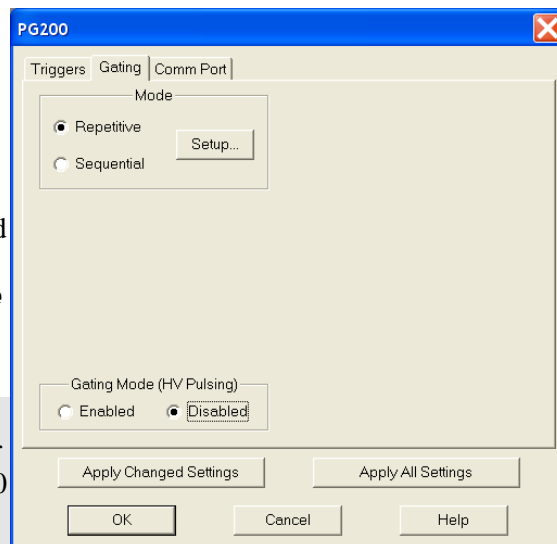

Figure 163. PG200/Gating tab
4. Click on the **Gating** tab (Figure 163).